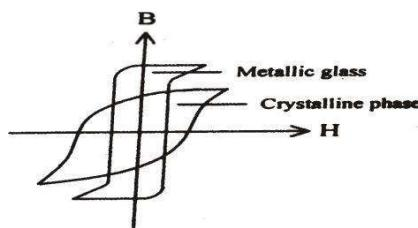

Fig.5.2
- b. They have very narrow hysteresis loop as shown in fig 5.2 . In Fig 5.2 the hysteresis loop of the metal alloy in crystalline phase is also given for reference.